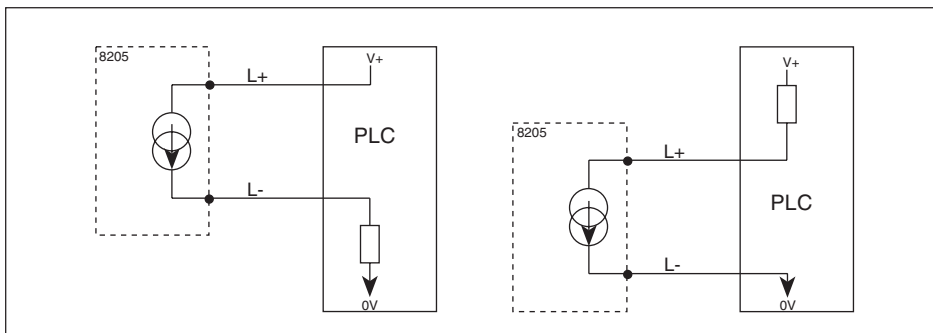

Fig. 3.7 Connection of 4-20 mA output to a PLC
**Note:** The 4-20mA output of the transmitter can easily be connected to a PLC (terminals 1-3), whatever the PLC type (sinking or sourcing) (cf. Fig.3.7).
**Note:** The transmitter can easily be connected to a PLC, ( terminals 2-3), whatever the PLC type (sinking or sourcing) (cf. Fig.3.7).
**Note:** The 4-20mA output of the transmitter can easily be connected to a PLC, (terminals 2-3), whatever the PLC type (sinking or sourcing) (cf. Fig. 3.7).